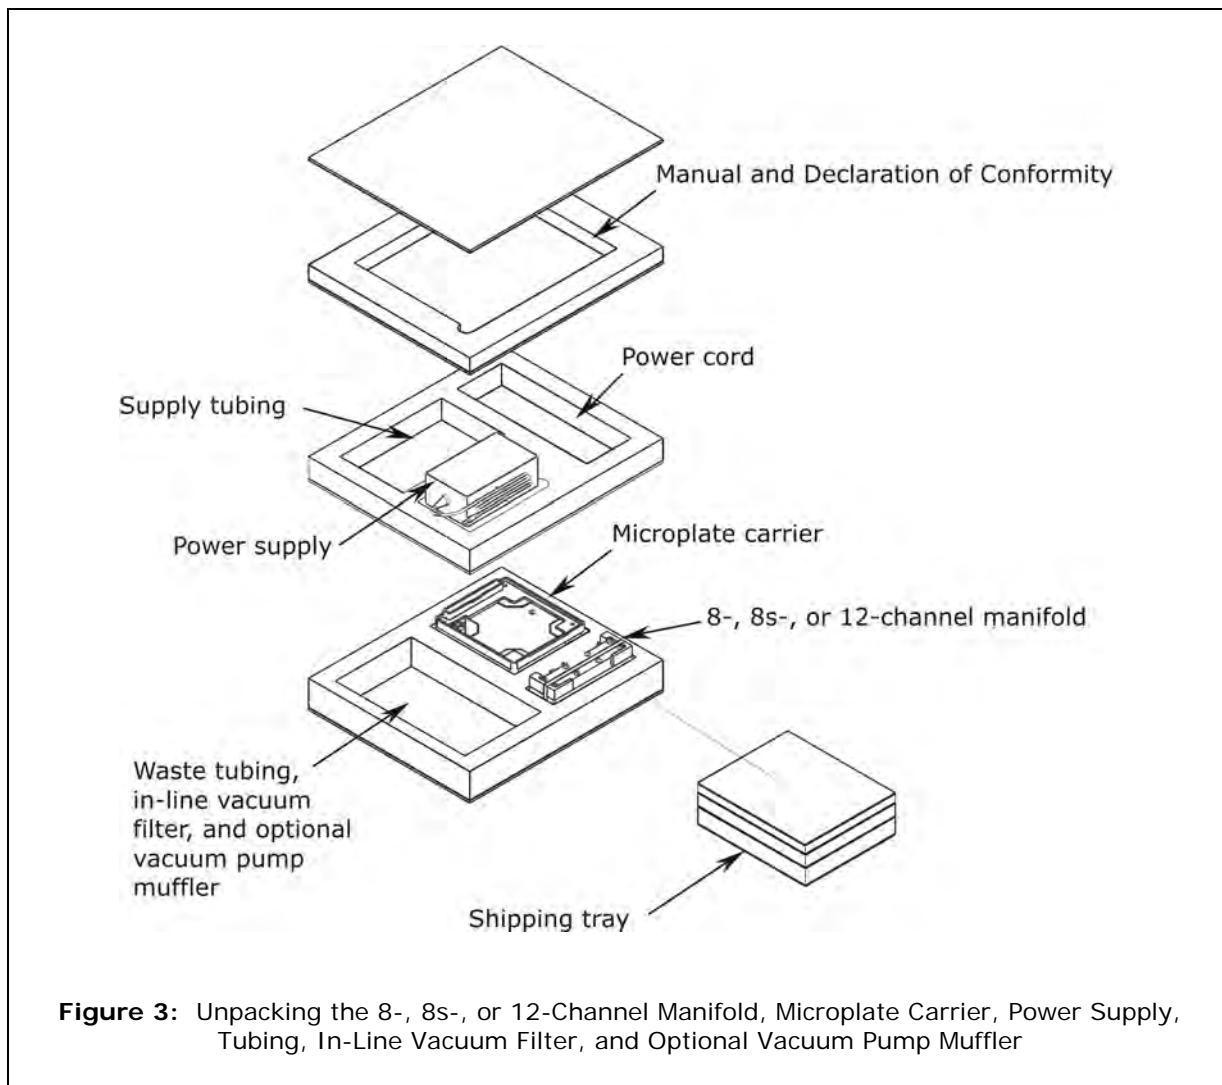

Figure 3: Unpacking the 8-, 8s-, or 12-Channel Manifold, Microplate Carrier, Power Supply, Tubing, In-Line Vacuum Filter, and Optional Vacuum Pump Muffler
3. Refer to **Figure 3** on the following page for unpacking the shipping tray for the 8-, 8s-, or 12-channel manifold, microplate carrier, power supply, tubing, in-line filter, and other accessories.